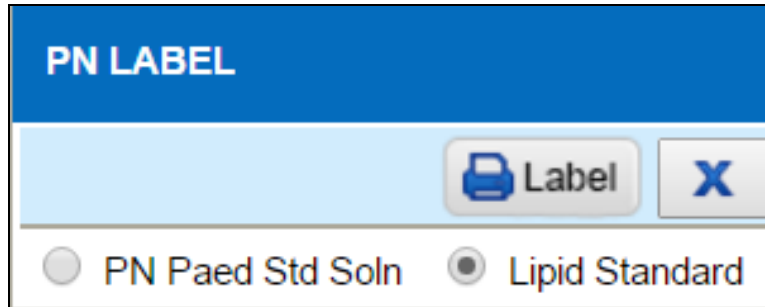

Figure 3.1-15 PN Drug Print Label
- If a Formulary is set up as Drug Type = PN in Drug Master, different types of Labels can be printed out as shown in Figure 3.1-15.